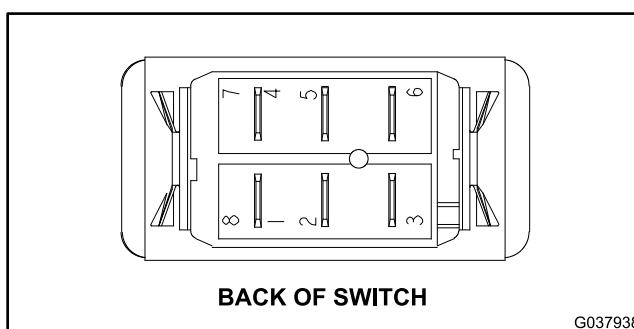

Figure 218
5. The air conditioning switch terminals are identified in Figure 218 and the circuitry of the switch is shown in the Circuit Logic Table \(page 5–75\). With the use of a multimeter (ohms setting), test the switch functions to determine if continuity exists between the various terminals for each switch position. Check the continuity between the switch terminals.